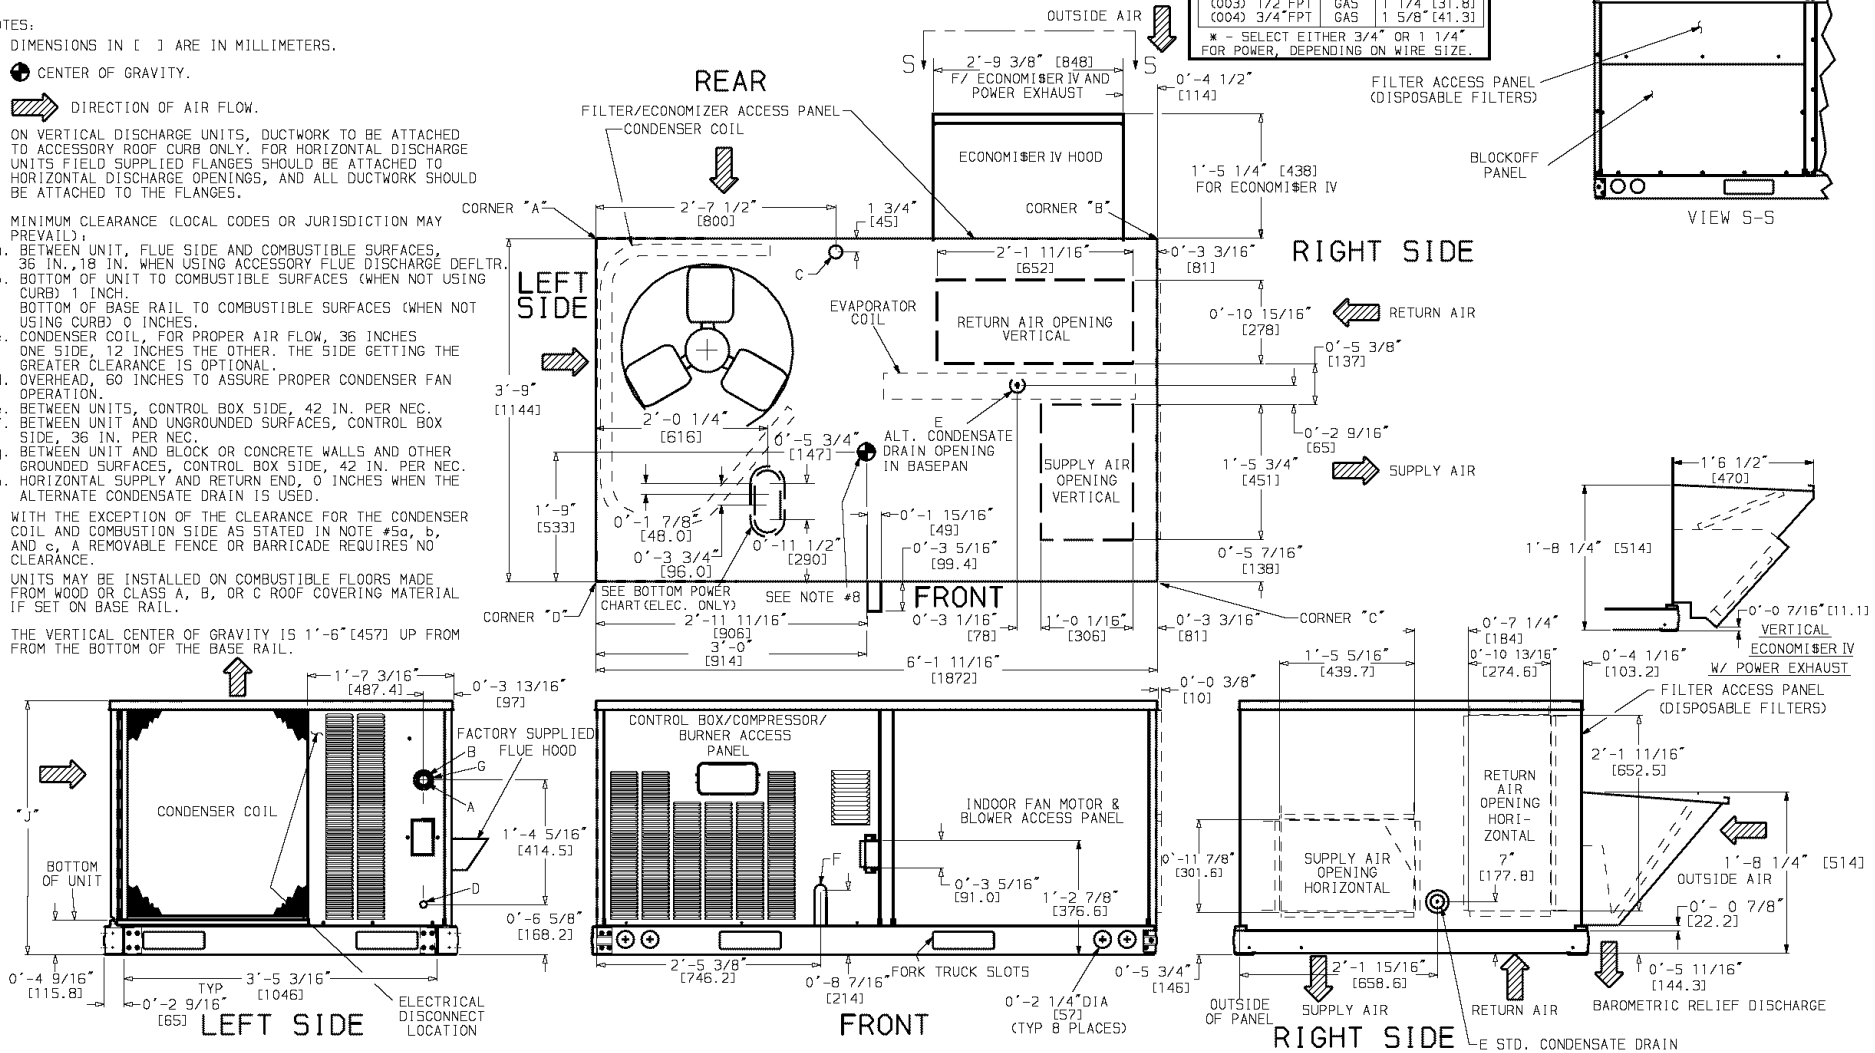

Fig. 7 — Base Unit Dimensions
Lifting holes are provided in base rails as shown in Fig. 7. Refer to rigging instructions on unit.
POSITIONING — Maintain clearance around and above unit to provide minimum distance from combustible materials, proper airflow, and service access. See Fig. 7.
Step 5 — Install Flue Hood — Flue hood is shipped screwed to the burner compartment access panel. Remove from shipping location and, using screws provided, install flue hood in location shown in Fig. 7 and 8.
Install conduit through side panel openings indicated in Fig. 7. Route power lines through connector to terminal connections as shown in Fig. 10.